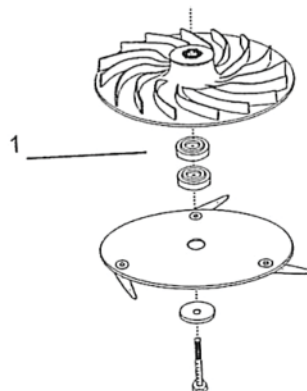

Figure 17
5. **To obtain a lower cut** add height adjustment spacer (s) between the impeller hub and the cutter disc. Remount the cutter disc. Install the flat washer and the impeller retaining bolt. Tighten the bolt securely. (Fig. 17)